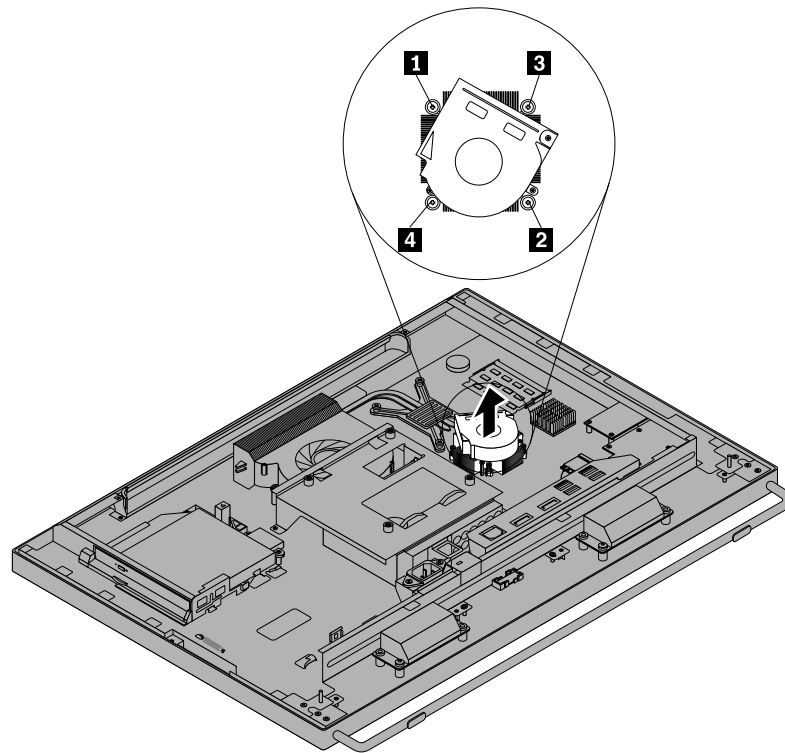

Figure 44. Removing the heat sink and fan assembly for GPU
9. Follow this sequence to install the four screws to secure the heat sink and fan assembly for GPU, as shown in Figure 44 “Removing the heat sink and fan assembly for GPU” on page 67.